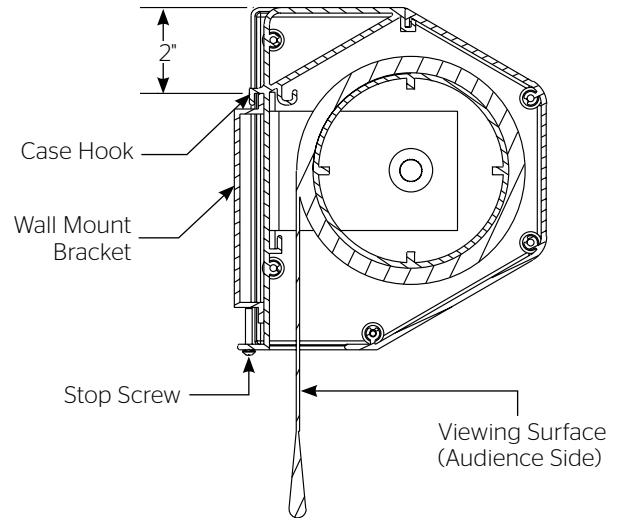

Figure 2
6. Mount the screen case on the wall bracket as shown in figure 2. Be sure the case is fully seated on the bracket. Tighten the stop screws against the wall bracket.